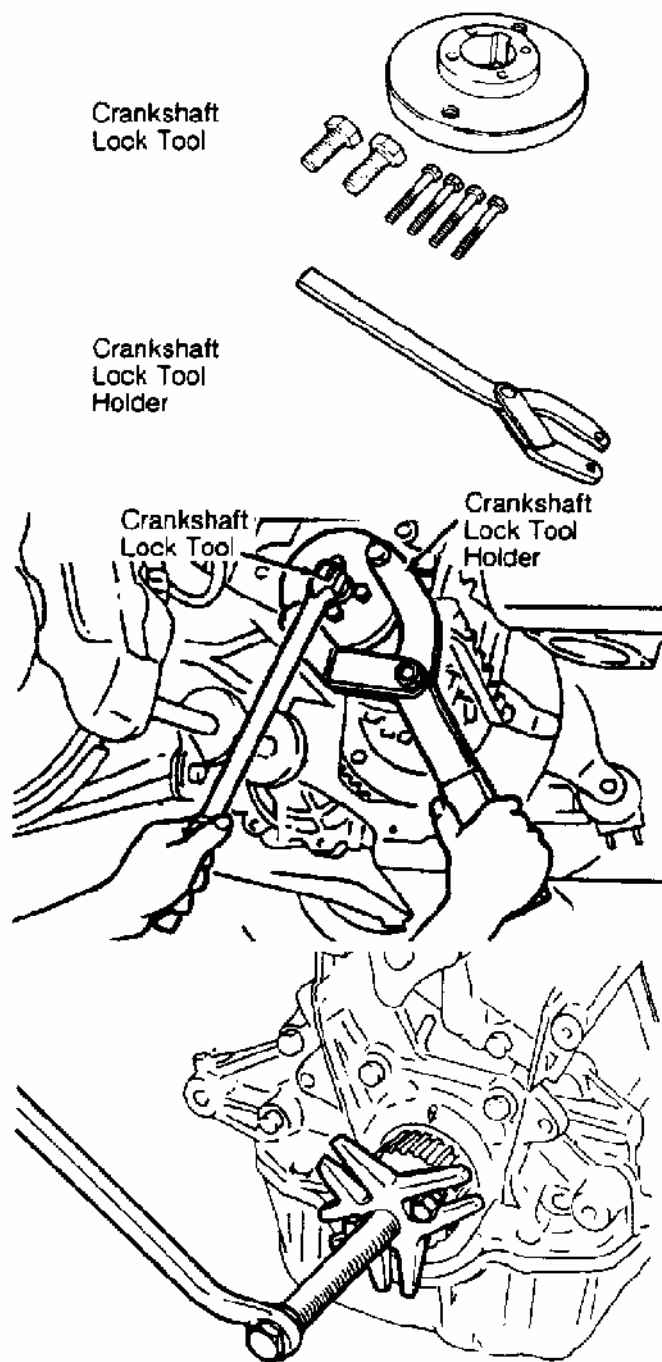

Fig. 5: Removing Crankshaft Sprocket
4. On all engines, check timing belt deflection with 22 lbs. (10 kg) of pressure applied to belt. See **Fig. 5** . Ensure timing belt deflection is within specification. See TIMING BELT DEFLECTION table.
(1) Deflection measurement is with 22 lbs. (10 kg) of pressure applied to timing belt. See **Fig. 5** .